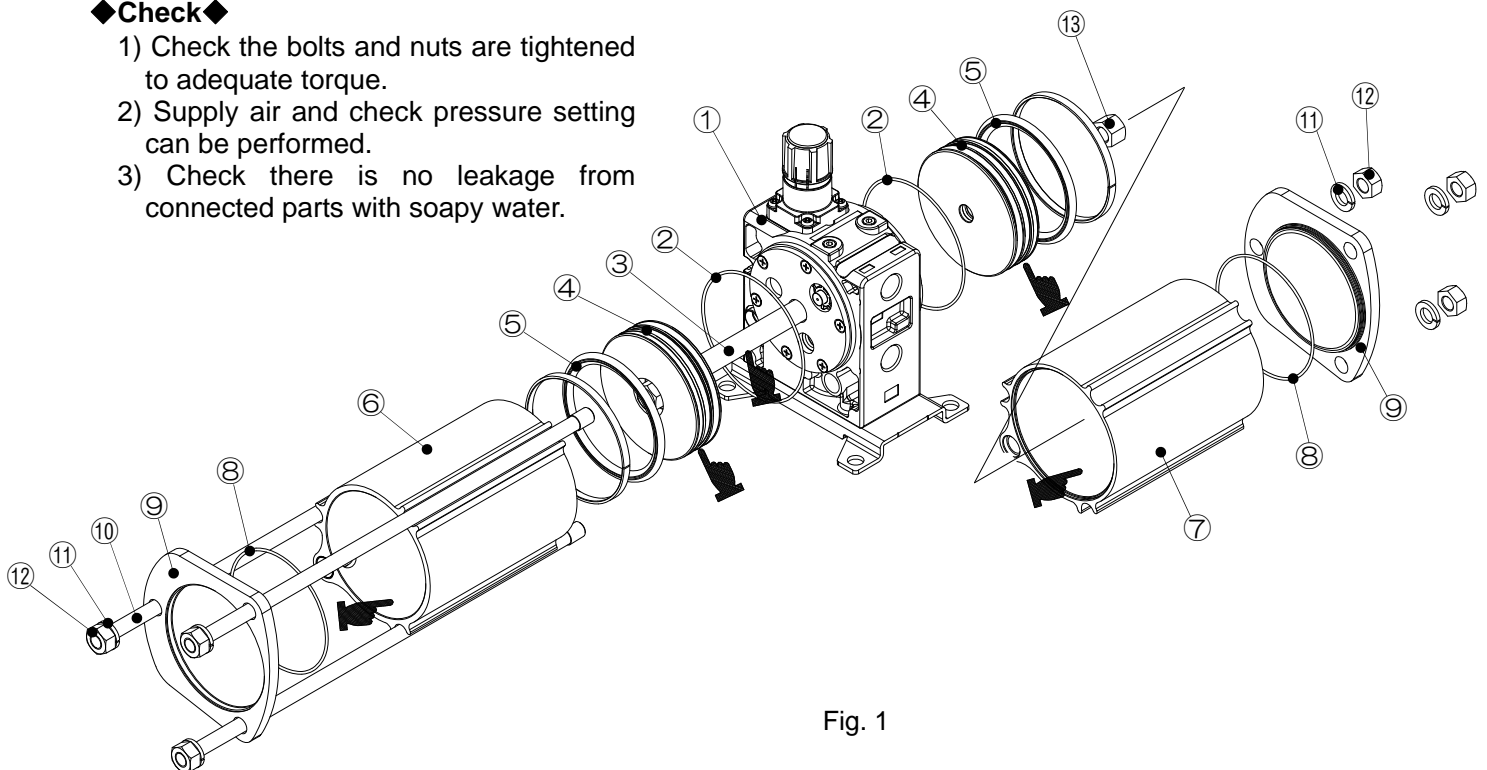

Fig. 1
- 1) Apply grease to the part marked with  in Fig. 1.
- 2) Pass the piston rod ③ through the body ① and assemble the piston ④.
- 3) Apply one drop of Loctite to the thread of the piston nut ⑬ and tighten it with the socket wrench. (Torque 21Nm) **The piston is not fixed completely (idles) if it is assembled correctly. Do not tighten it over necessary torque.**